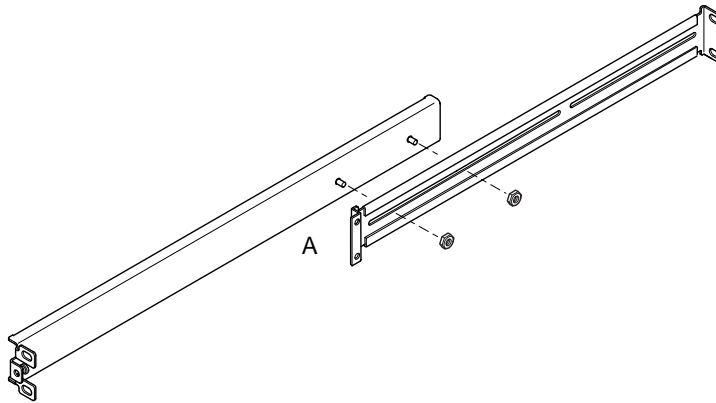

FIGURE 2-3 Positioning the Slide Mounts for a Standard 19-Inch Wide Rack
- For a standard 19-inch wide rack, the double-angled ear (A) must be to the front (see FIGURE 2-3).